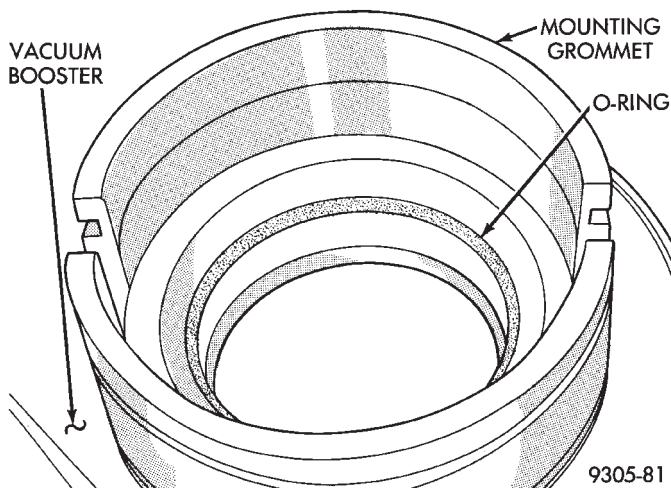

Fig. 19 O-Ring Installed In Travel Sensor Mounting Grommet
(8) Sparingly lubricate pedal travel sensor O-Ring with fresh clean brake fluid. Then install pedal travel sensor O-Ring in pedal travel sensor mounting grommet (Fig. 19).
(9) Sparingly coat end of pedal travel sensor with clean fresh brake fluid. Install pedal travel sensor into mounting grommet by pushing it straight into mounting grommet on vacuum booster. Be sure travel sensor is inserted into grommet until tab on travel sensor is past retaining ring on grommet. Install wiring harness connector on pedal travel sensor.
(10) Install master cylinder back on mounting studs on brake booster. Install the 2 nuts attaching